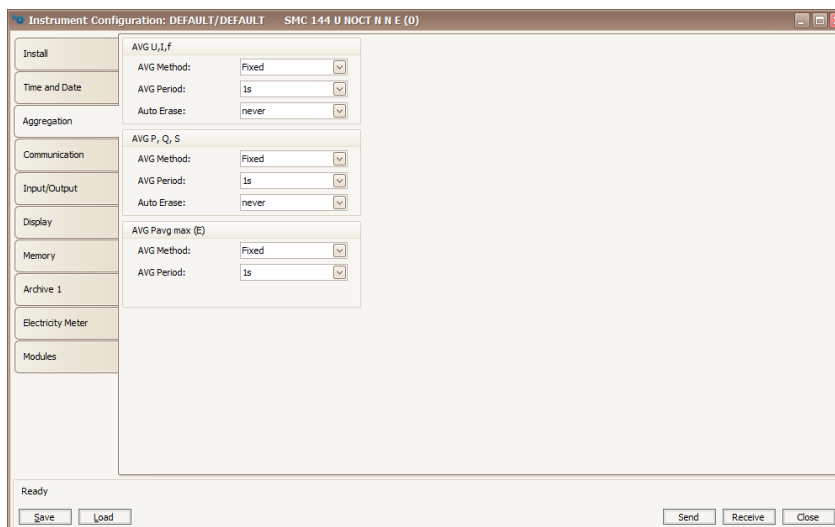

Figure 12: ENVIS.Daq - aggregation configuration defines how instrument evaluates average, minimum and maximum actual values for display and communication.
2.3.3 Aggregation (averaging, fig. 12)